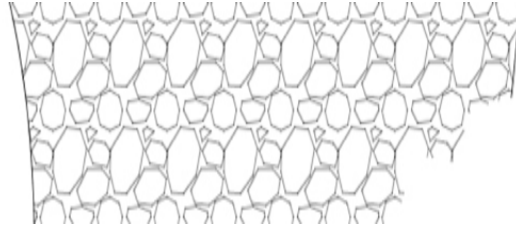

Figure 11-71
5. Place the door and window tags and add the room labels as shown in Figure 11-71. Place each object on